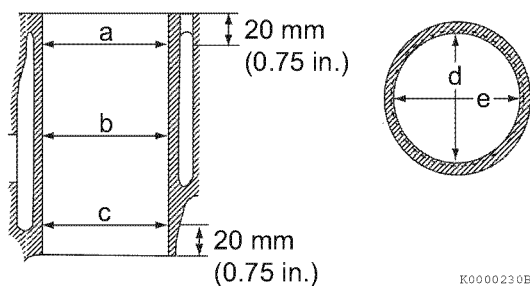

Figure 6-113
- Take measurements at three places (**Figure 6-113**) (a, b, c), and in two directions (d and e) in each cylinder.